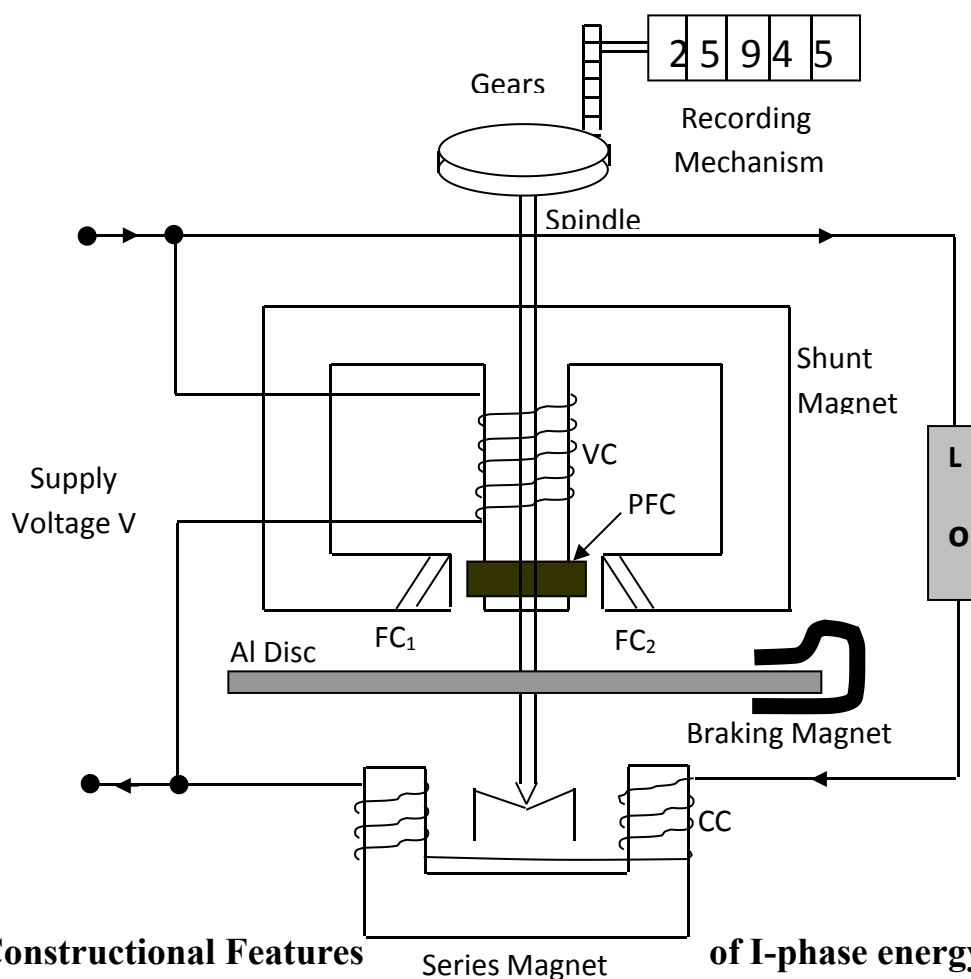

Fig.1 Constructional Features of I-phase energymeter
Driving system: - This system of the energy meter consists of two silicon steel laminated electromagnets. M1 & M2 as shown in fig.1 The electromagnet M1 is called the series magnet and the electromagnet M2 is called the shunt magnet. The series magnet M1 carries a coil consisting of a few turns of thick wire. This coil is called the current coil (CC) and it is connected in series with the circuit. The load current flows through this coil. The shunt magnet M2 carries a coil consisting many turns of thin wire. This coil is called the voltage coil (VC) and is connected across the supply it consist of current proportional to the supply voltage. Short circuited copper bands are provided on the lower part of the central limb of the shunt magnet. By adjusting the position of these loops the shunt magnet flux can be made to lag behind the supply voltage exactly 90° . These copper bands are called power factor compensator (PFC). A copper shading band is provided on each outer limb of the shunt magnet (fc1 & fc2) these band provides frictional compensation.